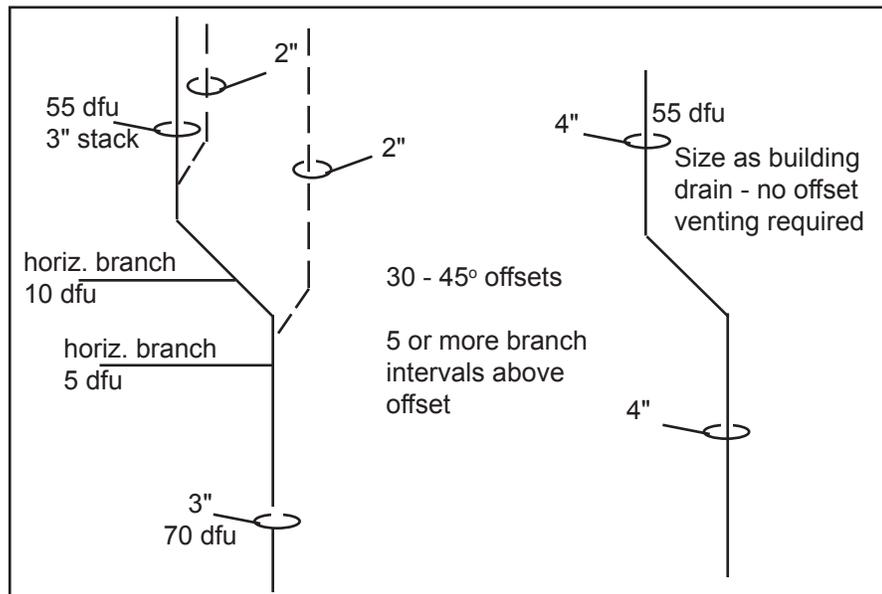

Figure 34. Two methods for venting a stack offset below 5 branch intervals
**When the entire stack is sized as building drain (at any pitch), the vent serving the offset is not required. See Figure 34.**